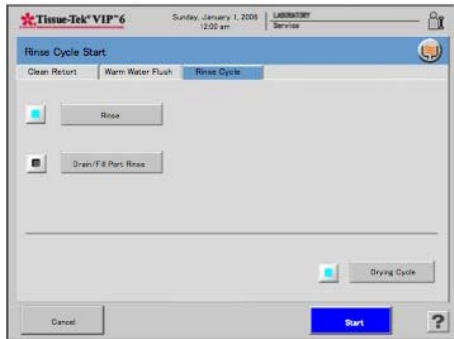

Figure 4-W
1. Touch **Drain/Fill Port Rinse** (Figure 4-W) if using alcohol from an external container to rinse the retort and lines after a solution exchange.